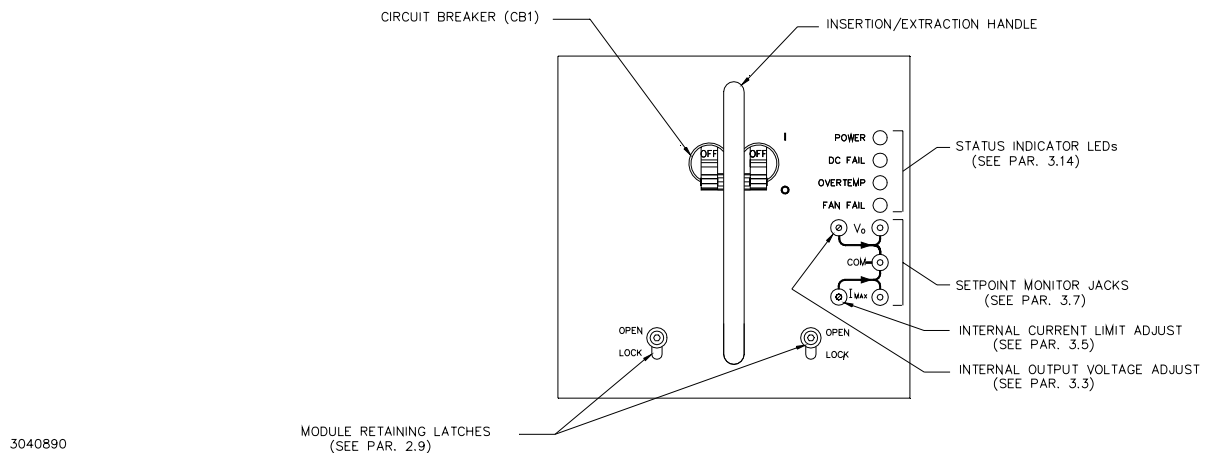

FIGURE 2-1. HSP SERIES FRONT PANEL CONTROLS AND INDICATORS
a) **Front Panel:** Refer to Figure 2-1.
A simple operational check after unpacking and before equipment installation is advisable to ascertain whether the power supply has suffered damage resulting from shipping. Refer to Figures 2-1, 2-2 and 2-3 for location of operating controls and electrical connections.